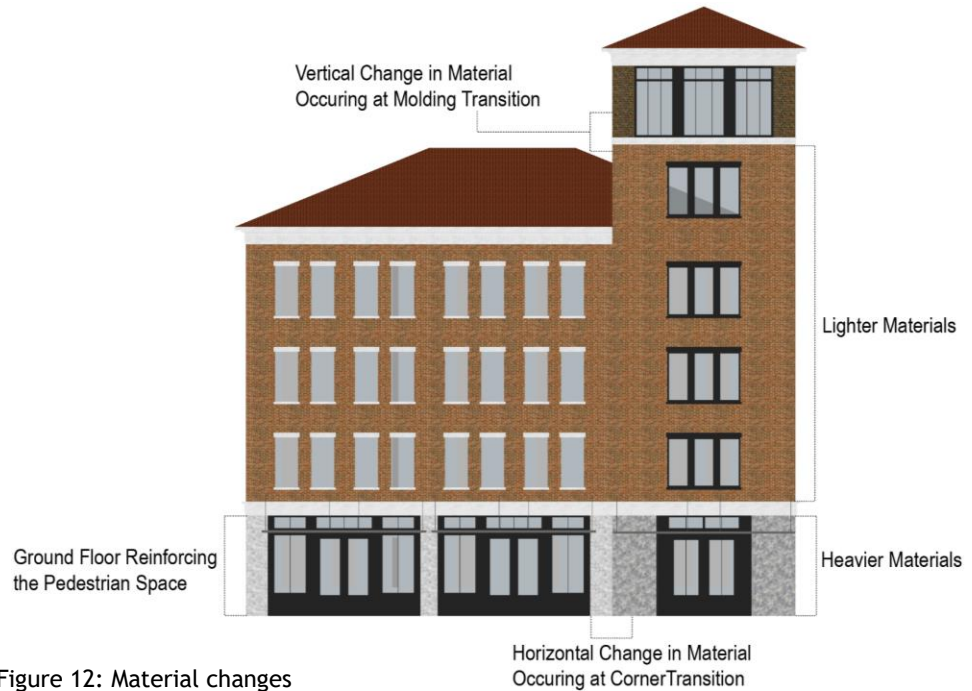

Figure 12: Material changes
1. When materials are combined on a façade horizontally, heavier materials most naturally occur below lighter materials (Figure 12).
2. For buildings three (3) stories of greater, the ground floor should be differentiated from those floors above in order to reinforce the pedestrian space (Figure 12).
3. Changes from one material or color to another along the horizontal direction should occur at “inside corner” transitions (Figure 12).
4. Changes in material or color along the vertical direction should occur at hard-edge “bump-out” transitions, which gives materials a surface to terminate into (Figure 12).